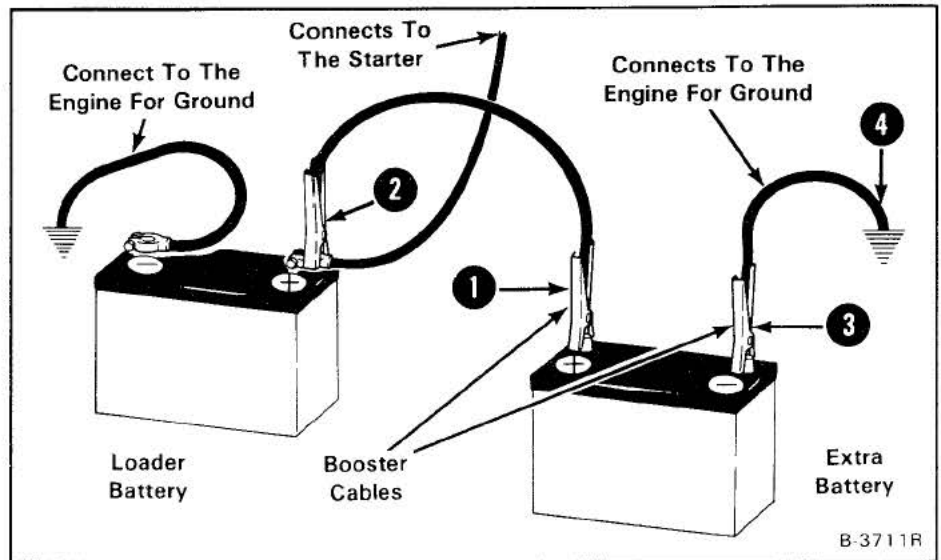

Fig. 59 Connecting Booster Cables
5. Connect the end of the first cable to the positive terminal (+) of the booster battery. Connect the other end of the same cable to the positive terminal (+) of the loader battery (Fig. 59).